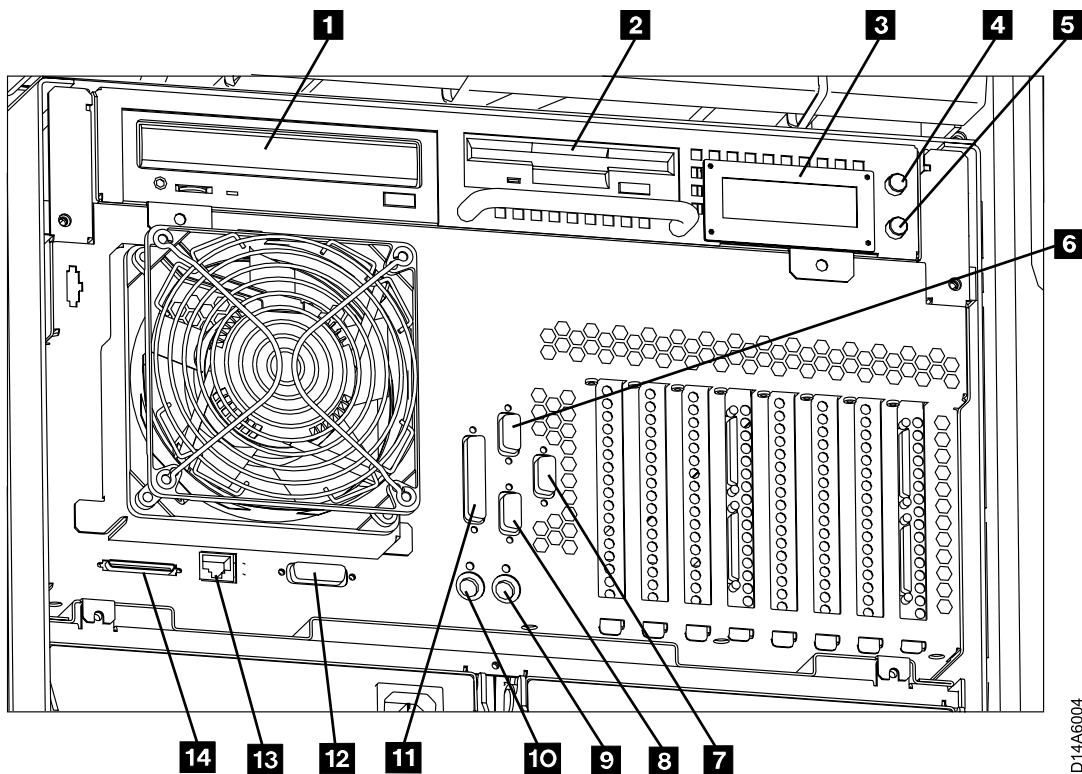

Figure 27. A60 Controller Controls and Connections
- \_\_\_ Step 1. Power on the A60 Controller with the power on switch, see Figure 27 on page 202 **4**
**Service Terminal Installation and Remote Assistance Installation without a Switch:** To connect the Service Terminal to the C10 frame, you connect directly to the A60 Controller in Port 1 (S1) (see Figure 27 on page 202 **6**) using the null
To connect for remote assistance, without using a switch, the modem is attached directly to the A60 Controller in Port 2 (S2), see Figure 27 on page 202 **7**. The remote connection is made using **16**, **2**, **13** twice, and **9**. Refer to Figure 29 for necessary parts.